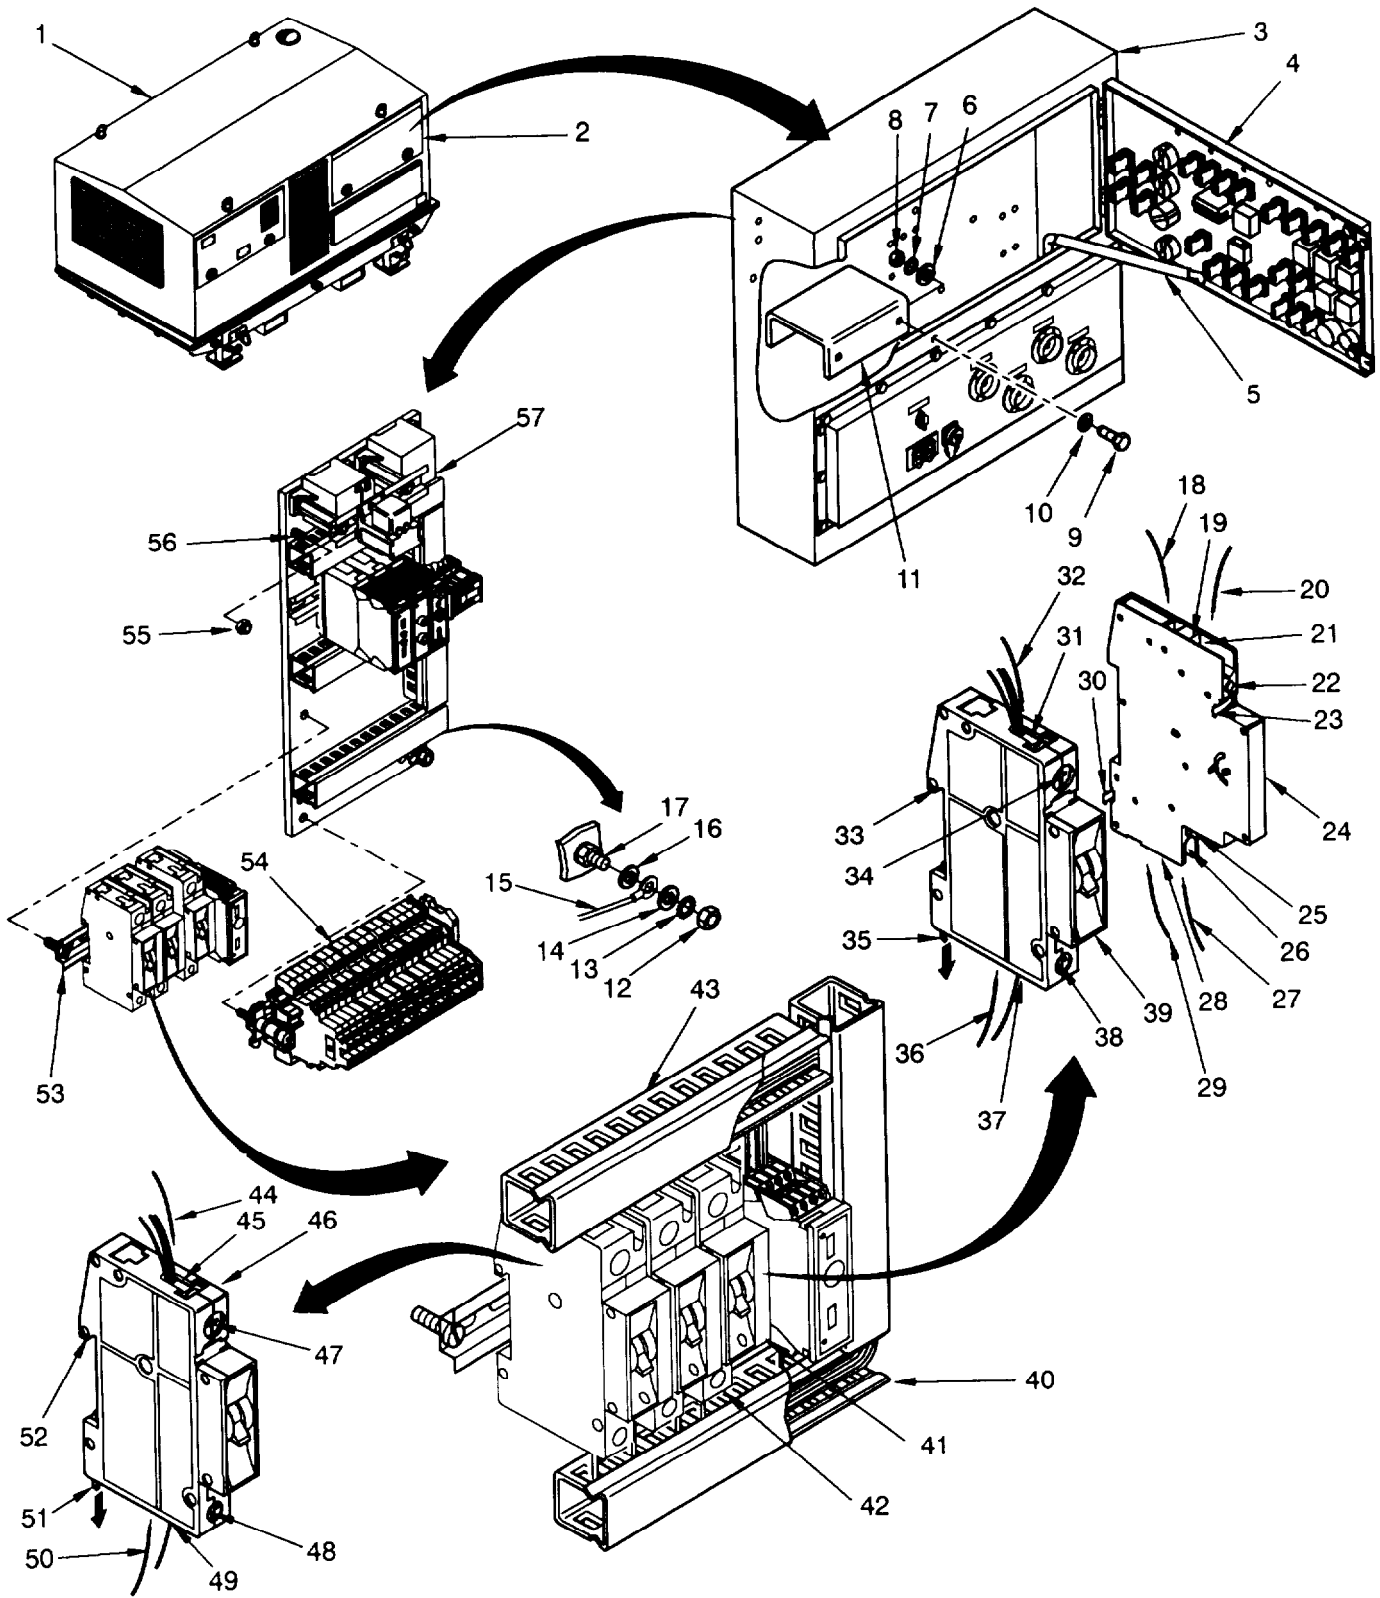

Figure 4-57 Control Cabinet Assembly, Engine Preheating Control Board, Circuit Breaker Maintenance.
- a. Open flap (2, figure 4-57) on unit hood assembly (1).
- b. Open front panel (4) of control cabinet assembly (3) and secure with prop (5).
- c. Open cable conduit (40) and cable conduit (43).
- f. Use a screwdriver to push locking element (35) on circuit breaker assembly part (39) in direction of arrow, tilt circuit breaker assembly parts (24, 39), and remove from mounting bar (53).
- g. Separate circuit breaker (39) from auxiliary switch (24):